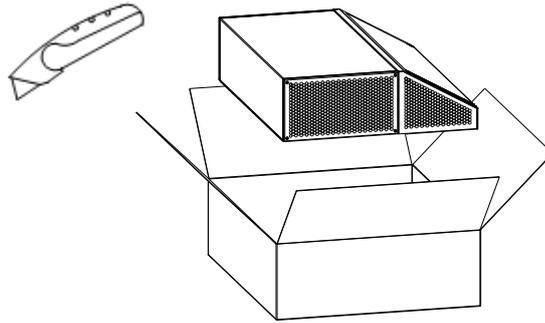
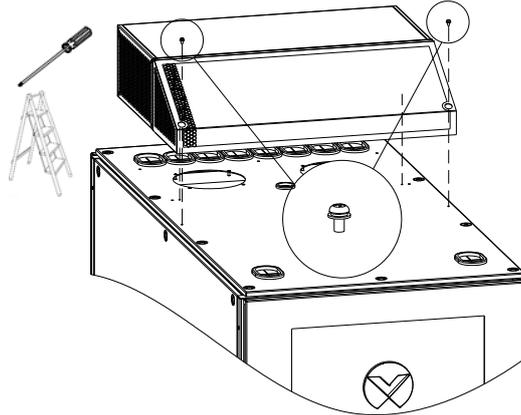

Figure 2-11 Removal the fan package
Figure 2-12 Install ECO fan module
- 1) Unpack the ECO fan module, take out the ECO fan module, and place the ECO fan module on the top of the cabinet with a step ladder. The fan cable is threaded into the cabinet from the top guard ring of the cabinet. Use a positioning pin to locate and fix the 2 PCs of M4x8 screws, as shown in Figure 2-11 & Figure 2-12.